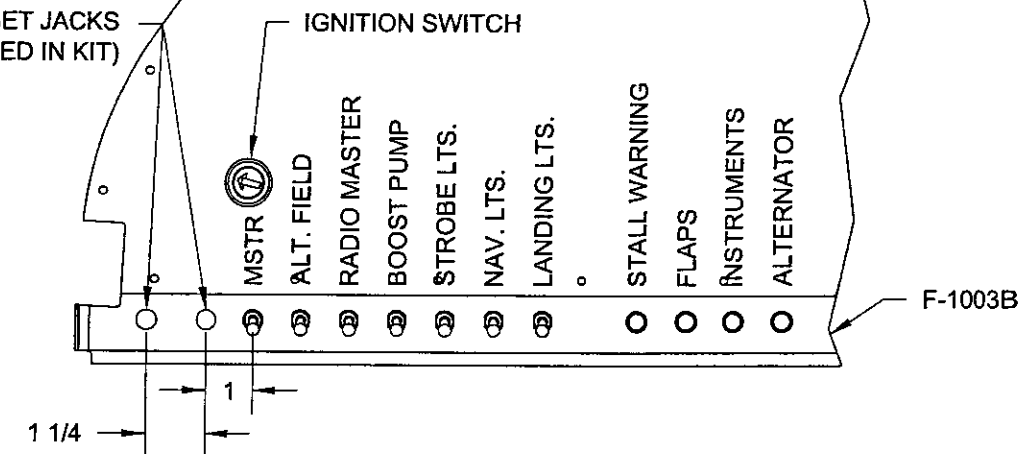

FIGURE 3:
Step 3: Study the SCB/CB configuration shown in Figure 3. This is the layout for which the wiring harness has been designed. Reconfiguration may require adjustments to the harness.
The lateral position of the SCB/CB's may be varied slightly from the design locations shown in Figure 3. If planning to make changes delay drilling these holes until after fitting the harness into the fuselage to verify that the wires will reach the desired locations. The terminal block is best positioned directly forward of the SCB/CB's to prevent interference with other equipment or instruments mounted in the panel. Make certain that the terminal block is located within reach of the harness.